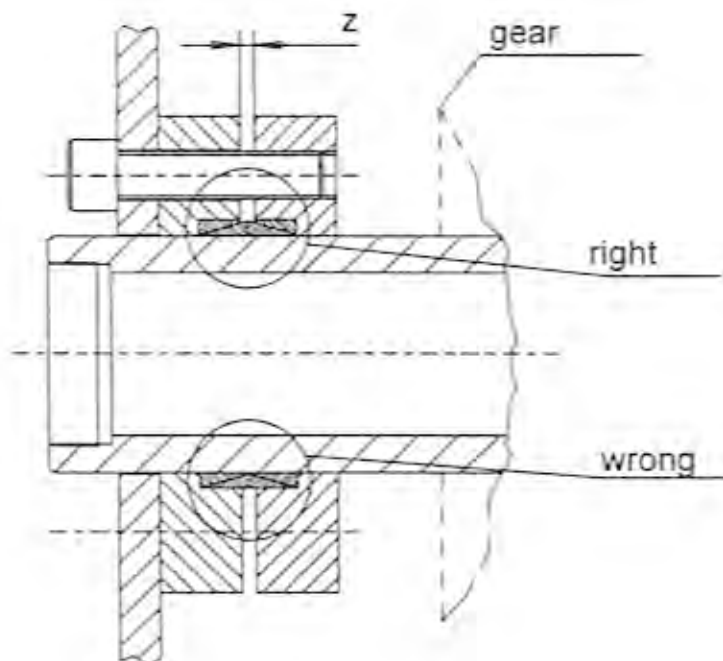

Figure 1: Drum Flange
- Lubricate tension elements and insert into the tension and pressure flange, observing correct mounting position. (See Figure 1)